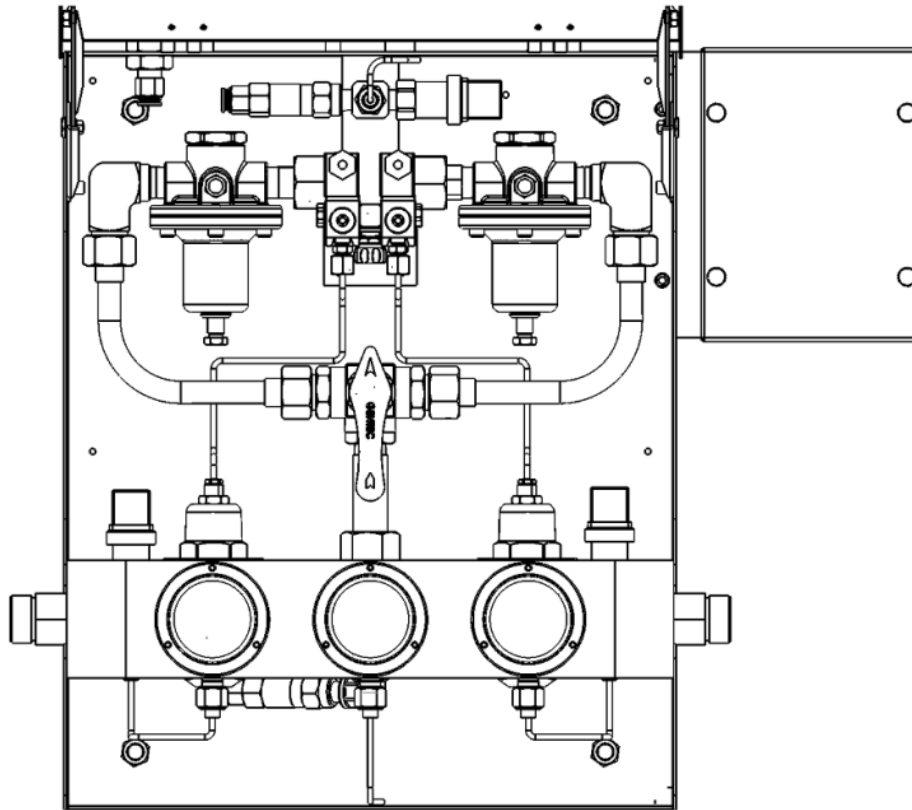

Figure 16
Pressure – Ready Bank”. After the base pressure has been set, pressure will be increased by the amount of control pressure applied. Refer to Figure 16 for the location of the components stated in this procedure.
7. Move the Tee Ball Valve to the off position as shown in Figure 16.